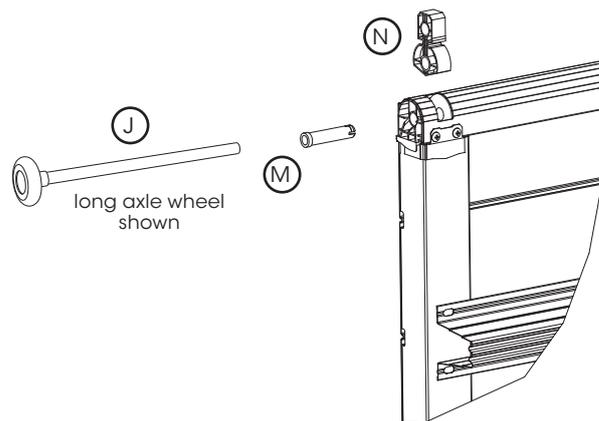

Fig: 2.2.4
- e) Insert the hinge link (N) into the recesses of the top of the panel and fix into place using the white hinge pins (M). Fig 2.2.4.